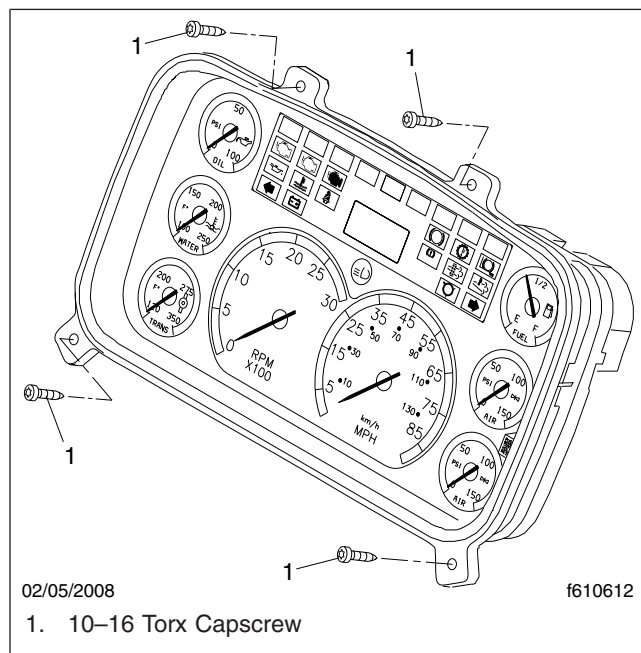

Fig. 3, ICU3 Installation
5. Remove the four screws that secure the ICU. See Fig. 3.